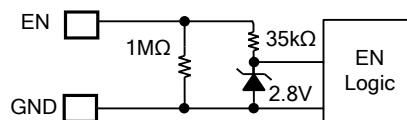

Figure 2: Zener Diode between EN and GND
Enable (EN) is a digital control pin that turns the regulator on and off. Drive EN high to turn on the regulator. Drive EN low to turn off the regulator. An internal 1MΩ resistor from EN to GND allows EN to be floated to shut down the chip. EN is clamped internally using a 2.8V series Zener diode (see Figure 2). Connecting the EN input through a pull-up resistor to VIN limits the EN input current below 100μA, preventing damage to the Zener diode. For example, if a 100kΩ pull-up resistor is connected to 12V VIN, then  $I_{Zener} = (12V - 2.8V) / (100k\Omega + 35k\Omega) = 68\mu A$ .